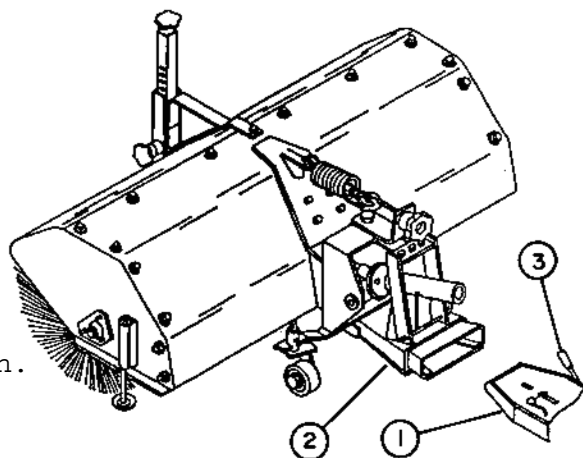

FIGURE 3
- b) Insert male quick hitch (fig.3, item 1) into broom female hitch (fig.3, item 2) and place male quick hitch lever (fig.3, item 3) fully forward in "locked" position. Secure male quick hitch latch with the linchpin.